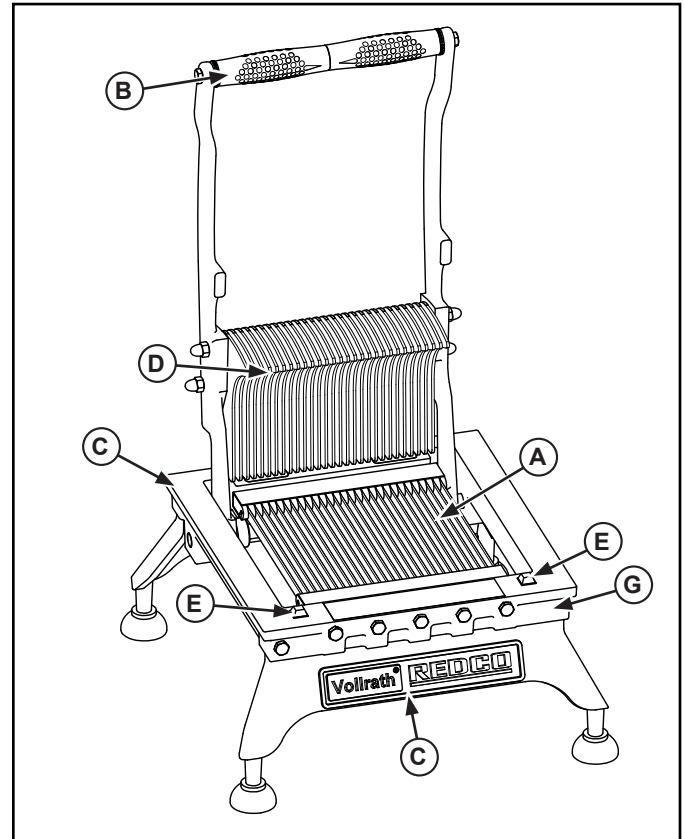

Figure 1. Features and Controls Fruit Cutter.
- Before each use, always check for proper blade alignment. Slowly set the pusher head (D) onto the blade assembly. See Figures 1 and 2. They should slide together with no obstructions. If there are obstructions, verify they are a matching set.
- Lift the handle (B) and place the food on the blade assembly (G) with the flat side down. See Figures 1.
- Remove hand from the blade assembly (G) area and place that hand on the leg (C).
- Raise the handle to put the highest position. See Figures 1 and 2.
- The blade assembly (G) is best cleaned by forcing water under pressure through the blades from the unsharpened side. If necessary, use a nylon bristle cleaning brush to push food particles out from the unsharpened side of the blade assembly (G).
4. Verify that the bumpers (10) are installed. If missing, clean the surface and install new blade block shield(s). See Exploded View and Parts List.
5. Remove the screws retaining the blade assembly (23). Carefully remove and dispose the blade assembly.
6. Examine the pusher fingers (16). If they are nicked or burred, smooth the rough edges with a small flat file. The spaces between the fingers must be uniform. Straighten any bent fingers.
7. Verify that blade shields (27) are installed on the blade assembly.
8. Place the blade assembly (23) into the frame (1) so the it is seated correctly and the sharp side up. See Figure 1.
9. Install the screws into the rear side of the blade assembly (23). Tighten until contact is made with the base assembly (1). Turn the screw until tight, do not exceed 1/2 turn or 40 in. lbs.
10. Place rubber washer between the base assembly (1) and the blade assembly (23). Insert the screws through the frame, and rubber washer into the blade assembly. Turn the screw until tight, do not exceed 1/2 turn or 40 in. lbs.
11. Slowly bring the pusher head assembly (11) down to the blade assembly (23). If there is contact, the pusher head may need to be adjusted. To adjust, loosen the locking collar sets crews and position then adjust the pusher head fingers. Tighten the locking collar set screws.